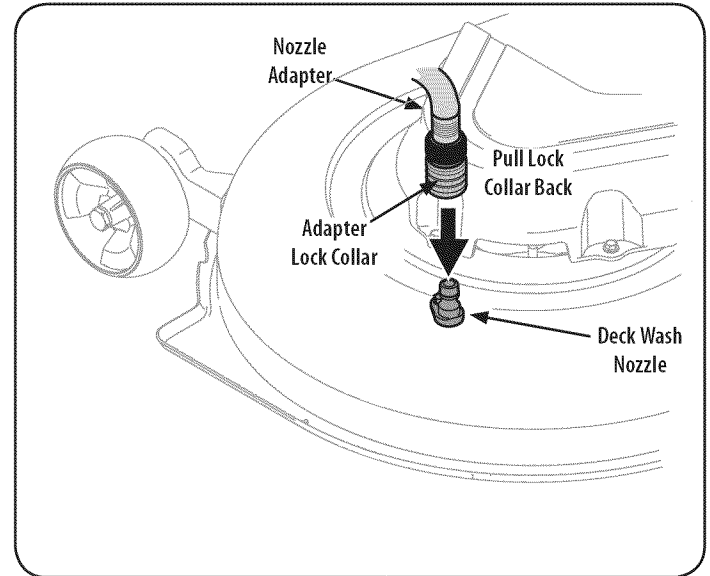

Figure 21
3. Pull back the lock collar of the nozzle adapter and push the adapter onto the deck wash nozzle at the left end of the mower deck. Release the lock collar to lock the adapter on the nozzle. Refer to Figure 21.